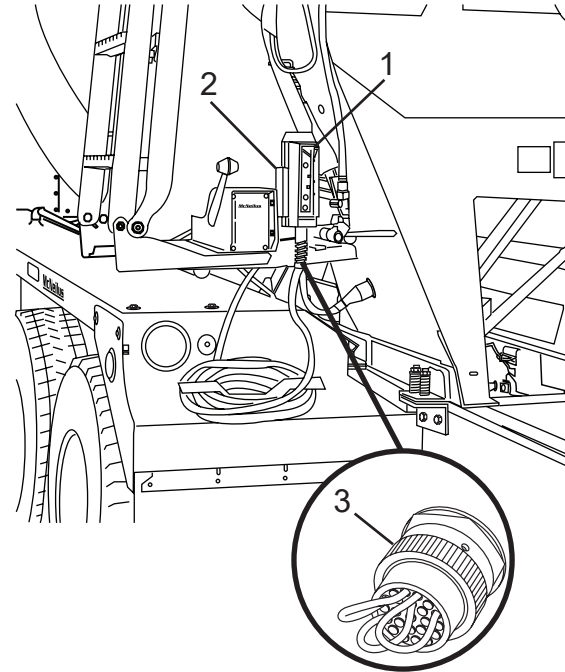

Figure 81
If the rear pendant (Figure 81, Item 1) is lost, or becomes damaged or faulty, a jumper plug (Figure 81, Item 3) must be installed in the rear pendant socket (Figure 81, Item 2) to allow operation of control functions from the cab control box.
2. Disconnect the rear pendant harness connector (Figure 81, Item 2) from the rear pedestal.
3. Install a jumper plug (Figure 81, Item 3) into the rear pendant harness connector. Purchase the jumper plug from www.streetsmartparts.com or by calling McNeilus Parts at 888-686-7278.